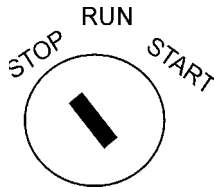

Figure 32. Ignition Switch (OFF)
3. Turn the key to the 'STOP' position to shut down the engine (Figure 32).